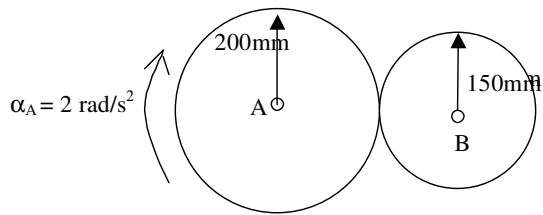

Figure 2
3. A disc A shown in Figure 2 starts from rest and rotates with a constant angular acceleration of $\alpha_A = 2 \text{ rad/s}^2$.